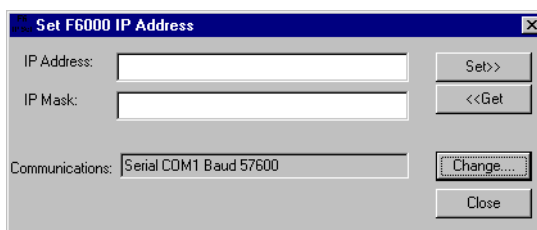

Figure B.6 *Set F6000 IP Address*
1. Select *Tools > F6000 IP Set* in the ProTesT menu bar and the *Set F6000 IP Address* dialog box appears (Figure B.6).